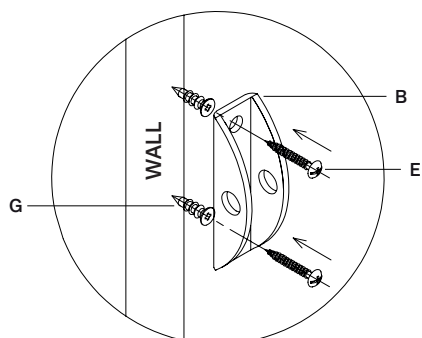

FIGURE 1
1. Move the mirror into position close to the wall. Mark locations on the wall approximately 5" (13 cm) above the set of metal brackets attached on mirror. Move mirror away from the wall. Drill pilot holes with a 3/32" (3 mm) drill bit if needed. Install EZ mini anchors (G) into the holes, and then attach brackets (B) to the wall with the screws (E) provided. (Figure 1).